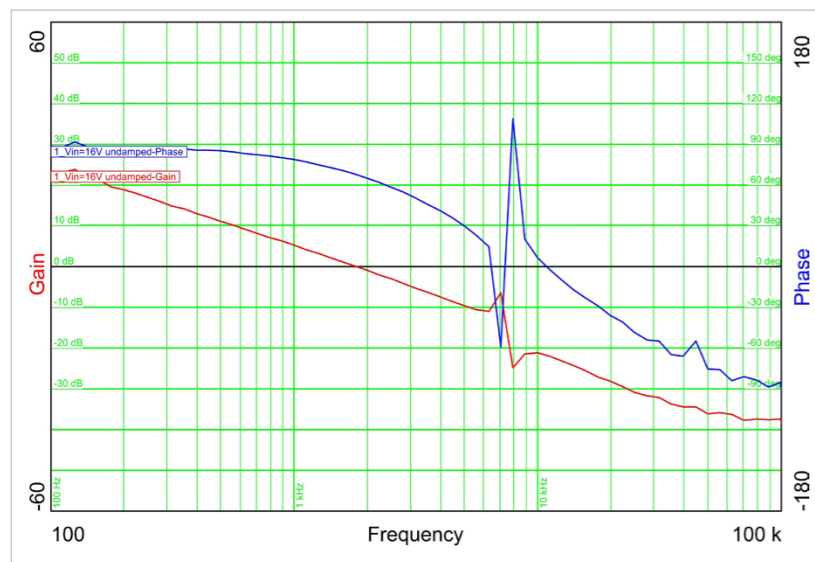

Figure 4: Bode plot of the undamped system
Figure 4: The Honeywell SS360ST, SS360NT, and SS460S bipolar latching Hall-effect sensors offer reliable switching points over its operating temperature range of -40 to +150 °C.
Miscommutation also results in lower effective torque constant (Kt) and higher torque ripple, causing additional electrical noise, which affects efficiency and system performance. Thus, a faster response time to a change in the magnetic field provides higher efficiency in commutating a BLDC (figure 4).
**Figure 4** shows the measured open loop of the undamped system. The gain increases at around 6 kHz, which causes problems for the stability of the system. The switch node shows jitter.